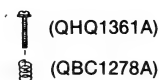

Fig. 2
- Please replace both azimuth adjustment screws (QH1361A) and springs (QBC1278A) used for to new ones simultaneously when readjusting the head azimuth. (Shown in Fig. 2.) Even if you wish to readjust the head azimuth without replacing the screws and springs, a fine adjustment can not be done because of the screw-locking bond adhered to the azimuth screw and spring.